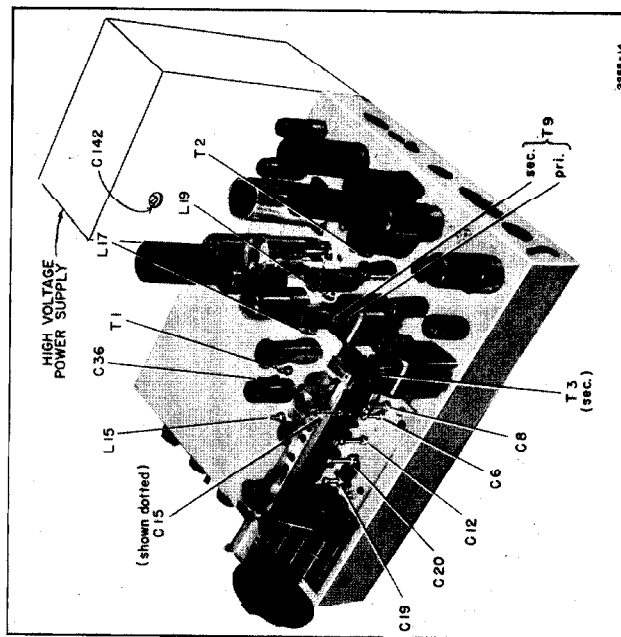

Figure 36. Location of Coils and Trimmers
5. With the signal generator set at the specified alignment frequencies, tune the corresponding coils for maximum or minimum response on the output meter, as indicated below. All the coils are slug tuned, with the exception of the 1st IF secondary, which is trimmer tuned. (See Figure 36).